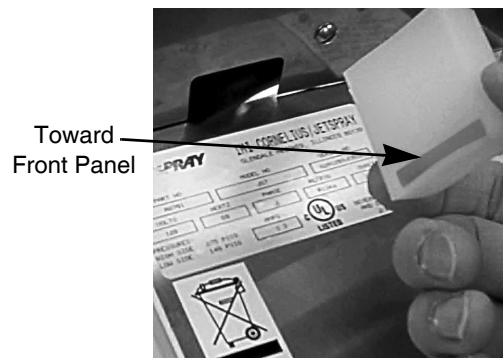

Figure 11.
2. To replace the condensate drain, place the drain against the front panel under the drain hole (opening in side of drain should be toward front panel). Push up until the drain snaps into place (See Figure 11).